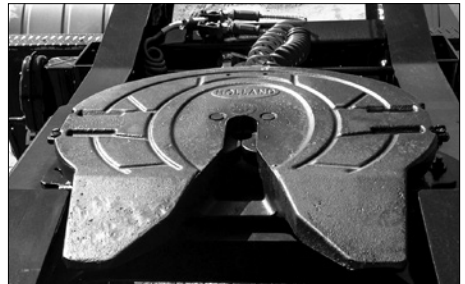

Figure 3
3.4 FIFTH WHEEL OPERATING INSTRUCTIONS (FIGURE 3)